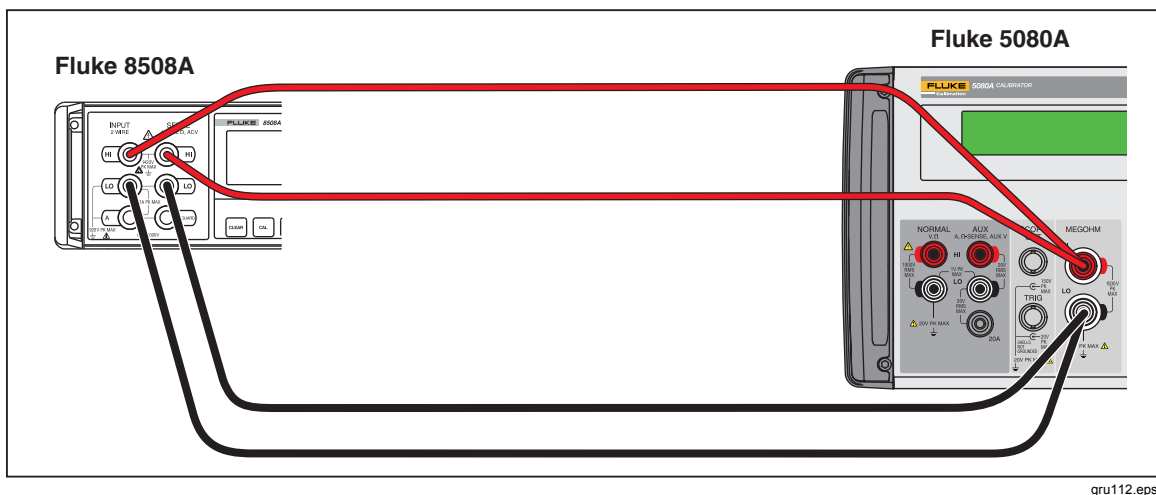

Figure 21. MEGOHM Low Resistance Calibration Connections
1. Connect the Fluke 8508A multimeter to the output terminals of the Product, as shown in Figure 21.